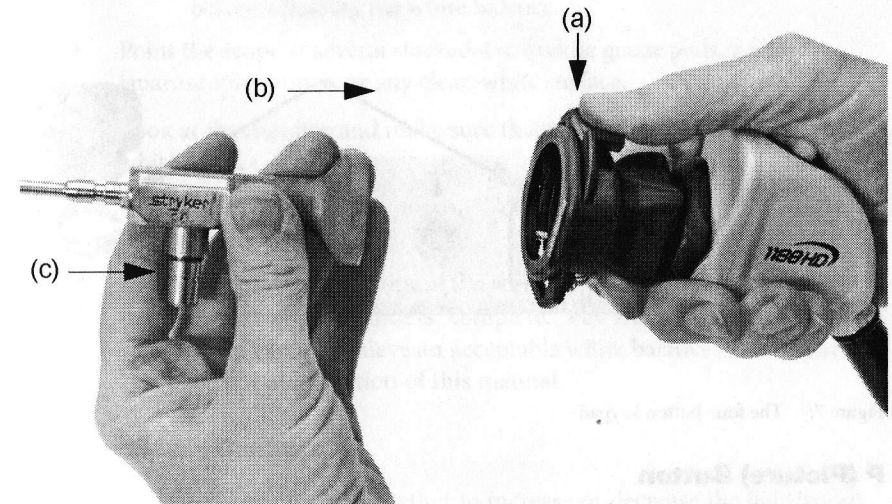

Figure 6: Attaching an endoscope to the camera head via the coupler
- Push down on the endbody clamp (a) and insert the scope into the scope end of the coupler (b). (See Figure 6.)
3. Attach a light cable from the light source to the light post on the endoscope (c) as seen in Figure 6.